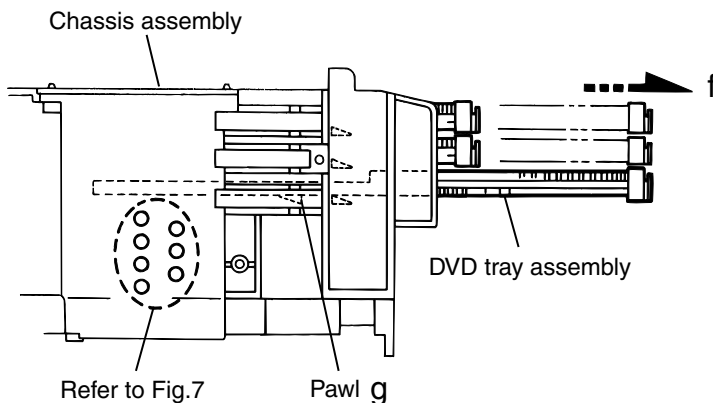

Fig.6
12. Make sure that the driver unit elevator is positioned as shown in Fig.6 from to the second or fifth hole on the left side face of the DVD Traverse mechanism assembly.
14. Pull out all of the three stages of DVD tray assembly in the arrow direction f until these stages stop (See Fig.6).